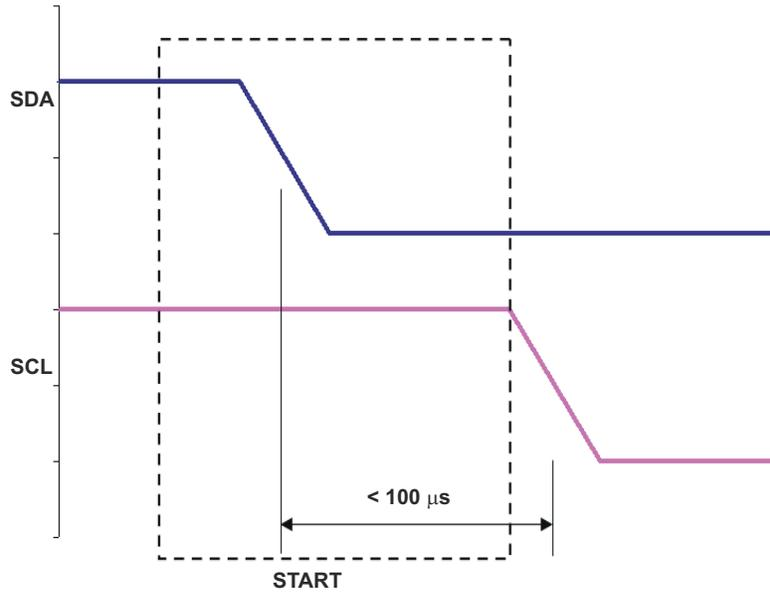

Figure 5-3. START Bit Requirement
- START bit (Figure 5-3): SCL must fall within 100 μ s of SDA falling.